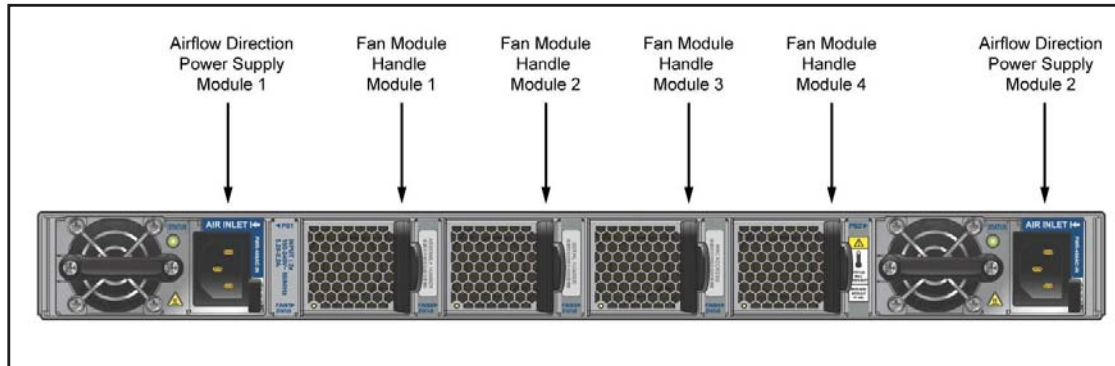

Figure 2-1: Airflow Direction Labels
- **Airflow Orientation:** Determine the airflow direction of the four fan modules and two power supply modules on the rear panel. Figure 2-1 on page 6 indicates the location of the airflow direction label on the power supply modules. The fan module airflow direction label is located on the left side of the handle. The fan and power supply module handles also indicate the module airflow direction: